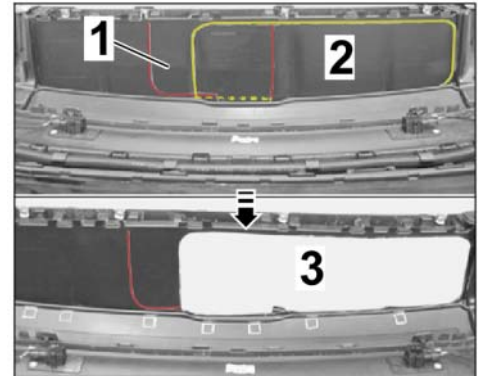

Figure 4
1.9.2 Mark the cut-out for the ball hitch (removable – USA) at the impression on the inside of the rear apron (⇒ *Figure 4 -top-*).
1.9.3 Carefully make the cut-out at the marking (⇒ *Figure 4 -bottom-*).